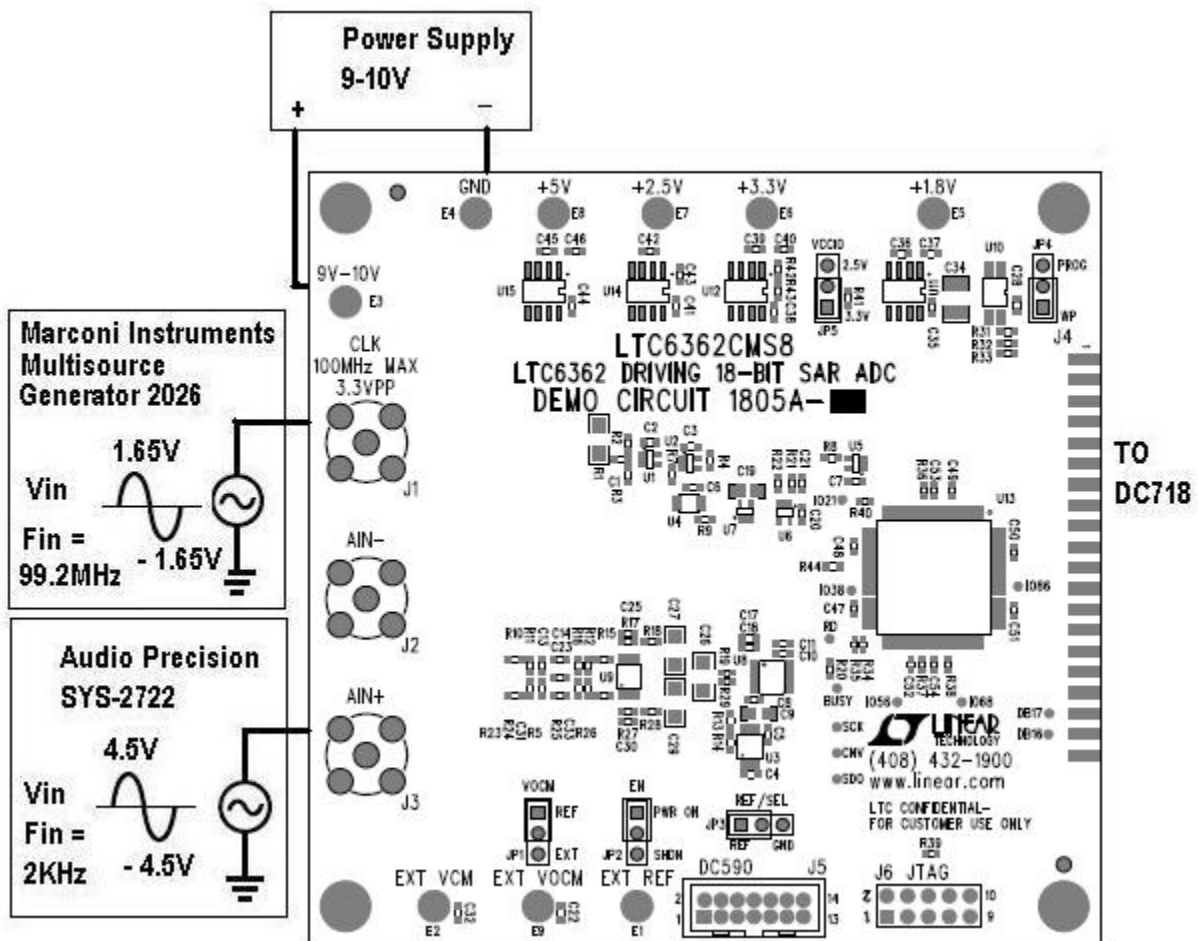

Figure 2. DC1805A Test Diagram
This board is tested by measuring the distortion at the differential output given a -1dBFS , 2kHz single-ended input as shown in Figure 2.
- 1) Make sure that all the jumpers are set as shown in Figure 2 (DC1805A Test Diagram).